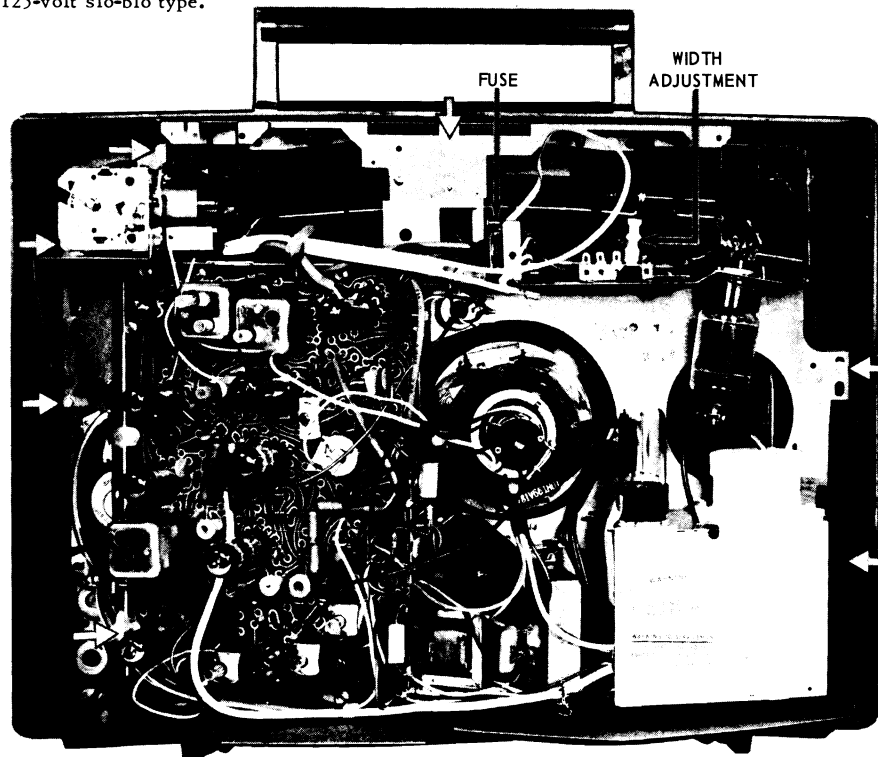

Figure 1 - Rear view of chassis, showing location of screws for chassis removal.
6. Remove the chassis retaining screws (refer to Figure 1).
The power supply fuse (F400) is located at the rear of the chassis below the AC input plug (refer to Figure 1). The fuse is a 2-amp, 125-volt slo-blo type.
For width adjustment, a push-on connector can be attached to any one of three terminals over coil L403 at the top of the chassis (refer to Figure 1). The width terminals are connected to a separate width winding on the horizontal output transformer.